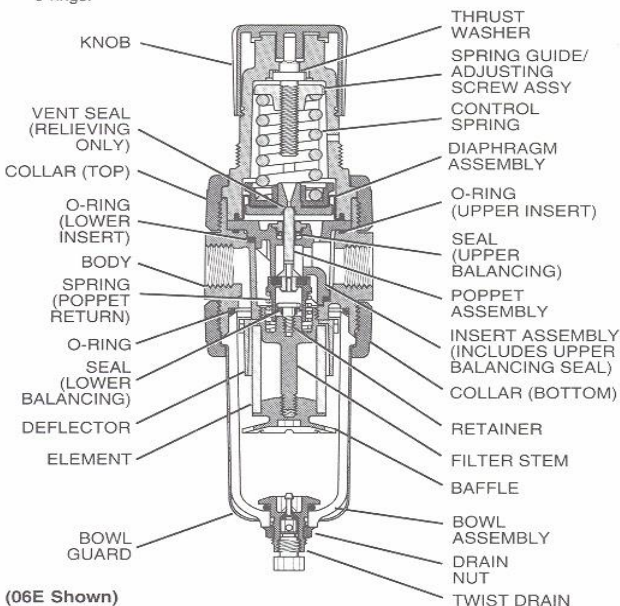

Figure 1: 05E, 06E, & 07E
- A. 05E, 06E, & 07E Units** - (Refer to Figure 1.)